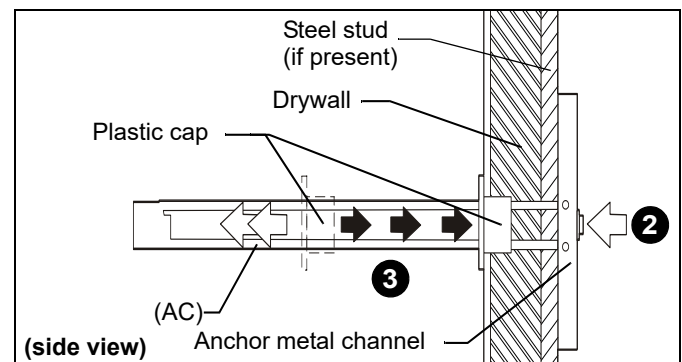

Figure 21
2. Holding plastic straps on anchor (AC), pull anchor away from wall until channel rests flush behind wall making sure anchor channel is positioned vertically on drywall, or steel stud (if present). (See Figure 21)
3. Slide plastic cap on anchor (AC) towards wall until flange of cap is flush with wall. (See Figure 21)